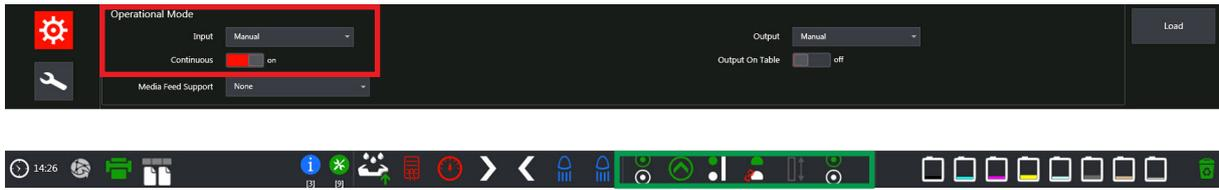
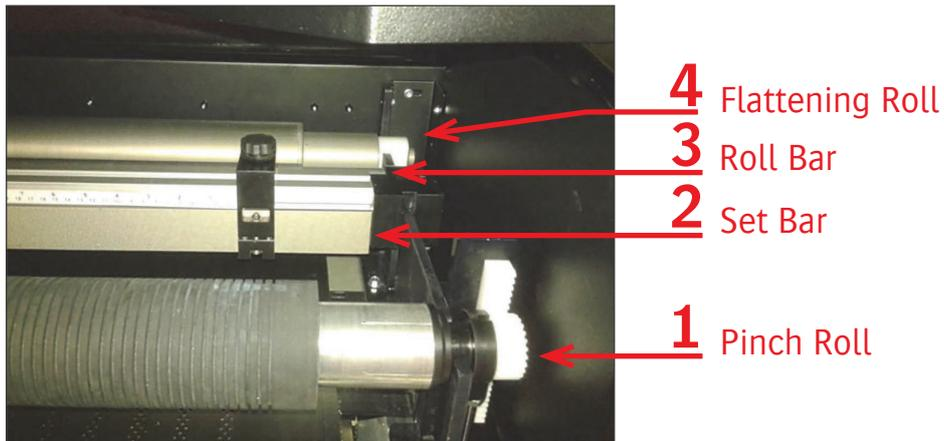

Fig.5-8: GUI - Continuous Print Mode
Fig.5-9: Continuous Print Mode Configuration
Select the Continuous Print mode from the GUI (outlined in red in Fig.5-8).
- Place the pinch roll in slot 1, the set bar in slot 2, the roll bar in slot 3 and the flattening roll in slot 4 (see Fig.5-9 and outlined in green in Fig.5-8).